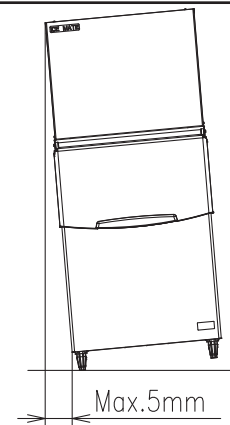

Fig.1
- * Level the dispenser unit/ice storage bin in both the left-to-right and front-to-rear directions. If using an ice storage bin, adjust the ice storage bin legs to level. See Fig. 1.